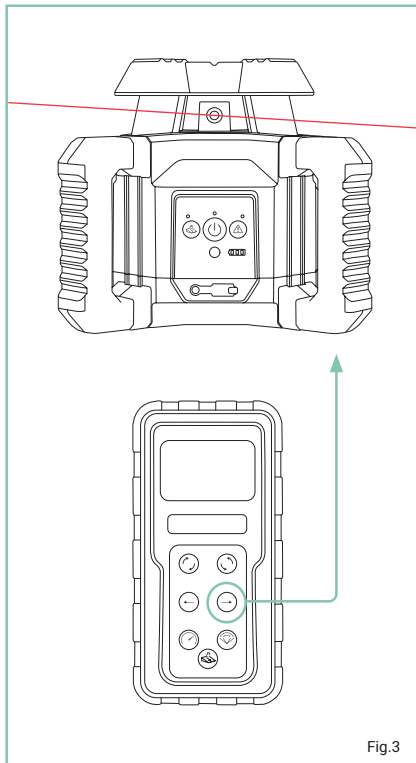

Fig.3
- Press the grade adjustment arrow buttons on the remote control to adjust the grade (Fig 3 & 4)